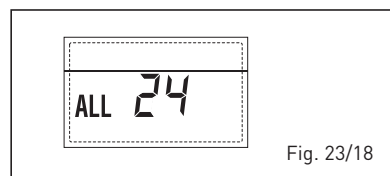

Fig. 23/18
– **SOLAR PROBE ANOMALY STORAGE TANK (S2) “ALL 25” (fig. 23/19)**